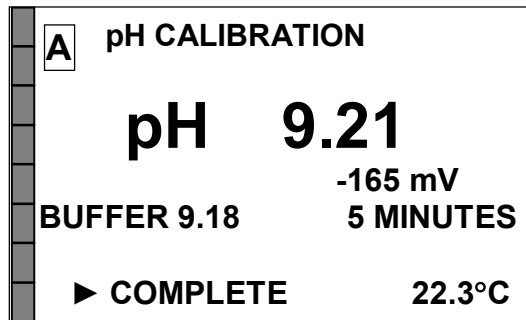

Fig. 2.19
- 15 If pH of the buffer solution is determined automatically, pH value shall appear and the progress meter shall be filled up. Once the progress meter is full, the display shown in Fig. 2.19 shall come up.